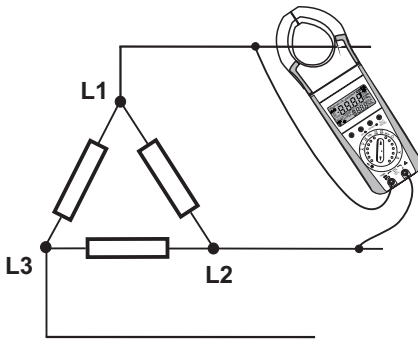

Fig 12.2.1 Connection diagram for 3ph3w balance load
- 2) Meter will show L1-2 and I -1 on display Connect meter to phase 1-2 as shown in fig 12.2.1.